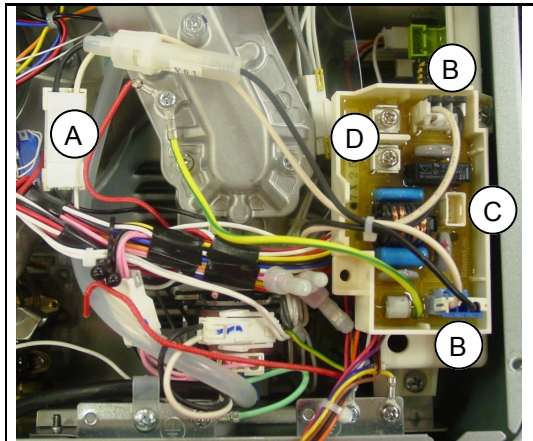

Figure 2 VC Indoor Model and KB Models
NOTE: Refer to Figure 2 for VC indoor models and KB models; refer to Figure 3 for VC outdoor models.
5. **On VC indoor models and KB models**, install the freeze protector circuit board onto the PC board. See Figure 2.